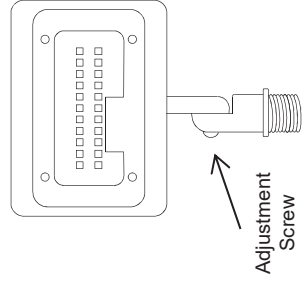

Figure 1
4. To adjust the vertical position of the luminaire, use a Phillips head screwdriver to loosen the adjustment screw. Reposition the luminaire head to the desired position, then re-tighten the adjustment screw (see Figure 1).